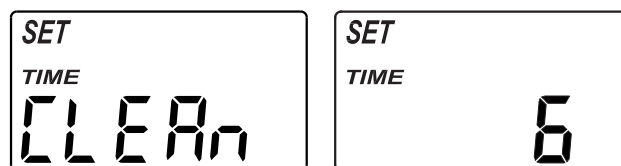

FIG. 29
2. Press the SELECT button three times to display the "Set Clean Time" screen (See Figure 29).